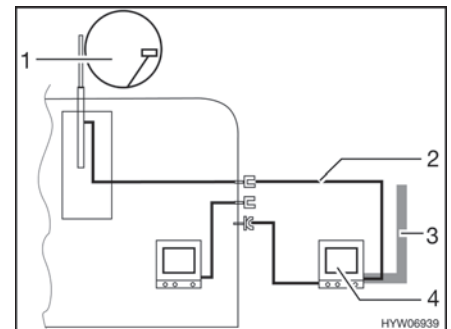

Fig. 130 TV in the awning
- TV inside the awning (Fig. 130,4): Connection to roof antenna (Fig. 130,1) with connection cable (Fig. 130,2)
- TV inside the awning (Fig. 130,4): Connection to external antenna (Fig. 130,3)